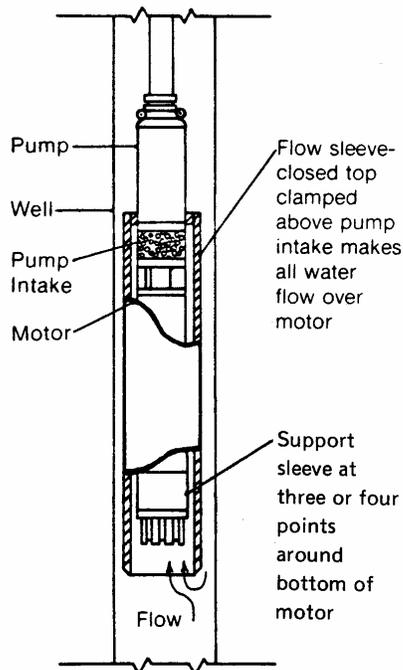

FIGURE 1. Flow Sleeve
- When the nameplate or instructions specify a minimum flow velocity past the motor, the well size, pump setting, delivery and water inflow levels must be considered to ensure at least that flow. If the delivery in the well does not create enough velocity or the well inflow is above the pump intake, a flow sleeve that makes all pump intake water flow over the motor at adequate velocity should be used (See Figure 1).